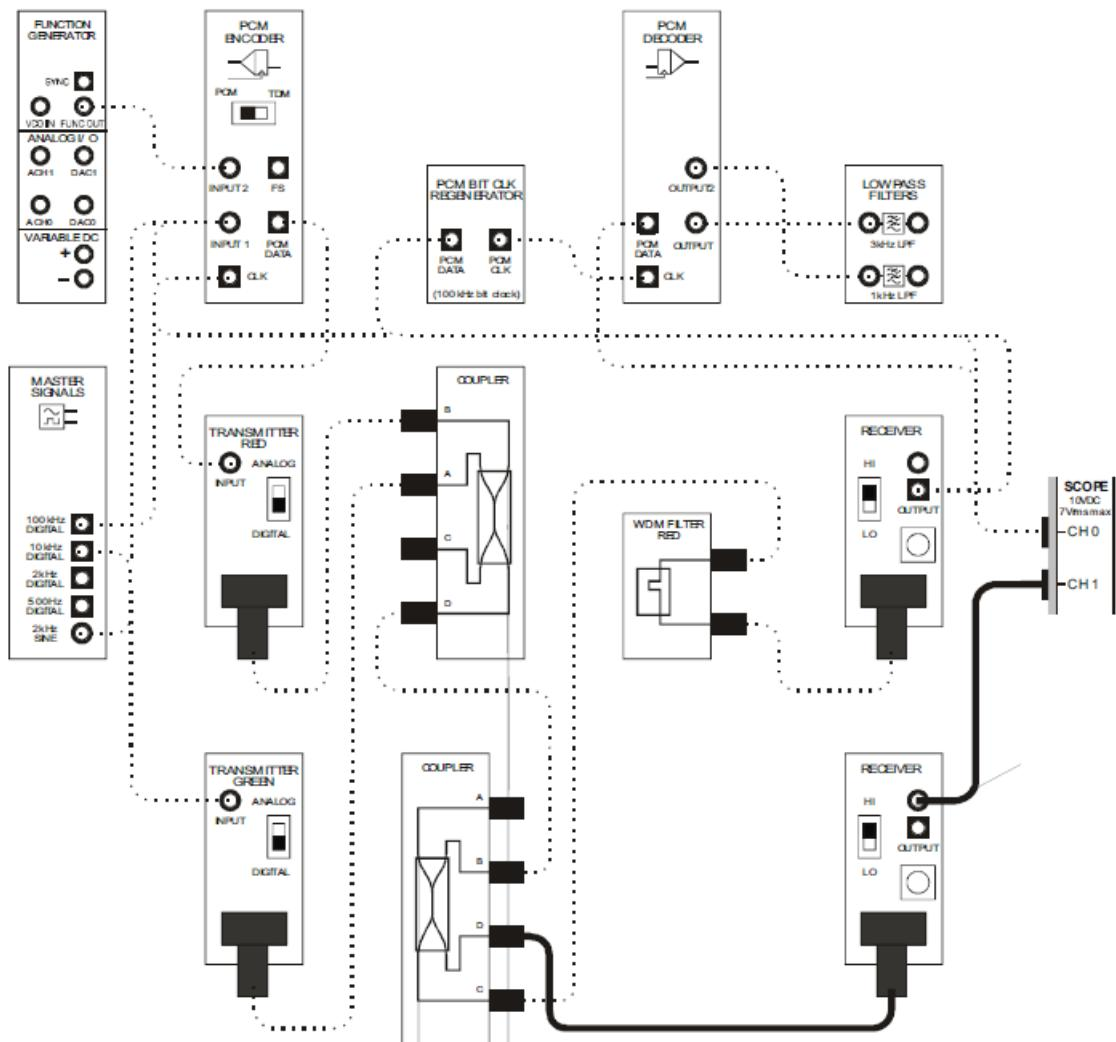

Figure 15
48. Modify the set-up as shown in Figure 15 below.